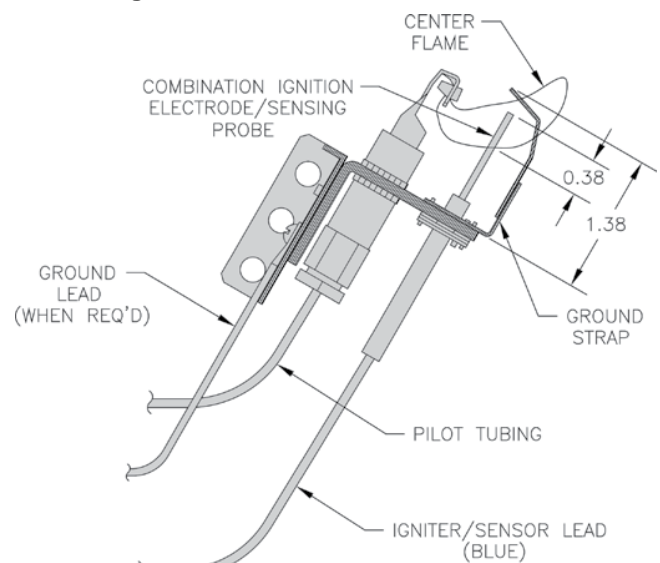

Figure 48: Pilot Burner Flame
**J. Check pilot burner flame.** See Figure 48. Flame should be steady, medium hard blue enveloping 3/8 to 1/2 inch of sensing probe.